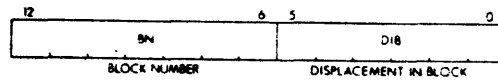

Figure 2-5 Displacement Field of Virtual Address
1. The Active Page Field (APF). This 3-bit field determines which of eight Page Address Registers (PAR0-PAR7) will be used to form the Physical Address (PA).
2. The Displacement Field (DF). This 13-bit field contains an address relative to the beginning of a page. This permits page lengths up to 4K words ($2^{13} = 8K$ bytes). The DF is further subdivided into two fields as shown in Figure 2-5.